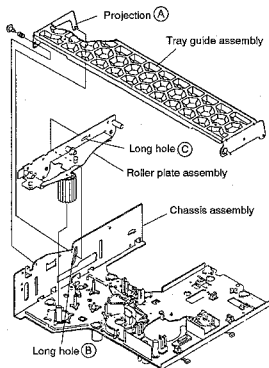

Fig. 15
- ① Install the tray guide assembly in the position where projection (A) of the tray guide assembly fits into the long hole (B) of the chassis assembly and the long hole (C) of the roller plate assembly. (Fig. 15)